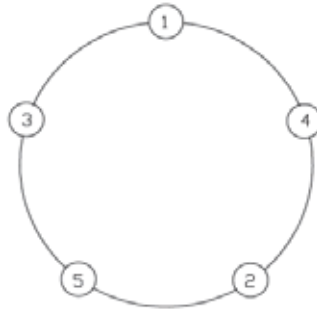

Figure 4 Brake Drum and Wheel Nuts - Tightening Sequence
- The brake drum mounting bolts are serviceable and correctly tensioned in the sequence shown at Figure 4.
- Fit and tighten the hub lock nut (10) onto the stub axle using the hub nut lock wrench (Table 2, Serial 2). Use a 1.5 to 2 lb hammer to tighten the nut.
- Fit the hub cap gasket (11) to the wheel hub and install the hub cap (12).
- n. Fit the wheel to the hub and secure with the five clamps and hexagon nuts. Tighten the wheel nuts evenly in the sequence shown in Figure 4.